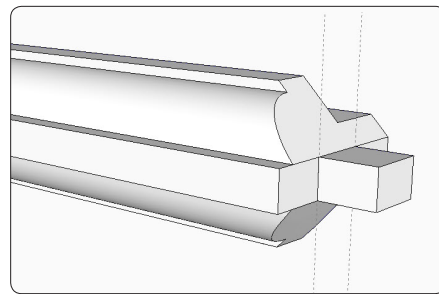

Figure 67. Draw a small tenon on the end of the muntin.
Step 7 Place guidelines to make a small tenon on the end of the muntin. Its dimensions are the same as those of the socket created in Step 5. Draw the boundary of the tenon with the Line Tool and pull it to length with the Push/Pull Tool (Figure 67).